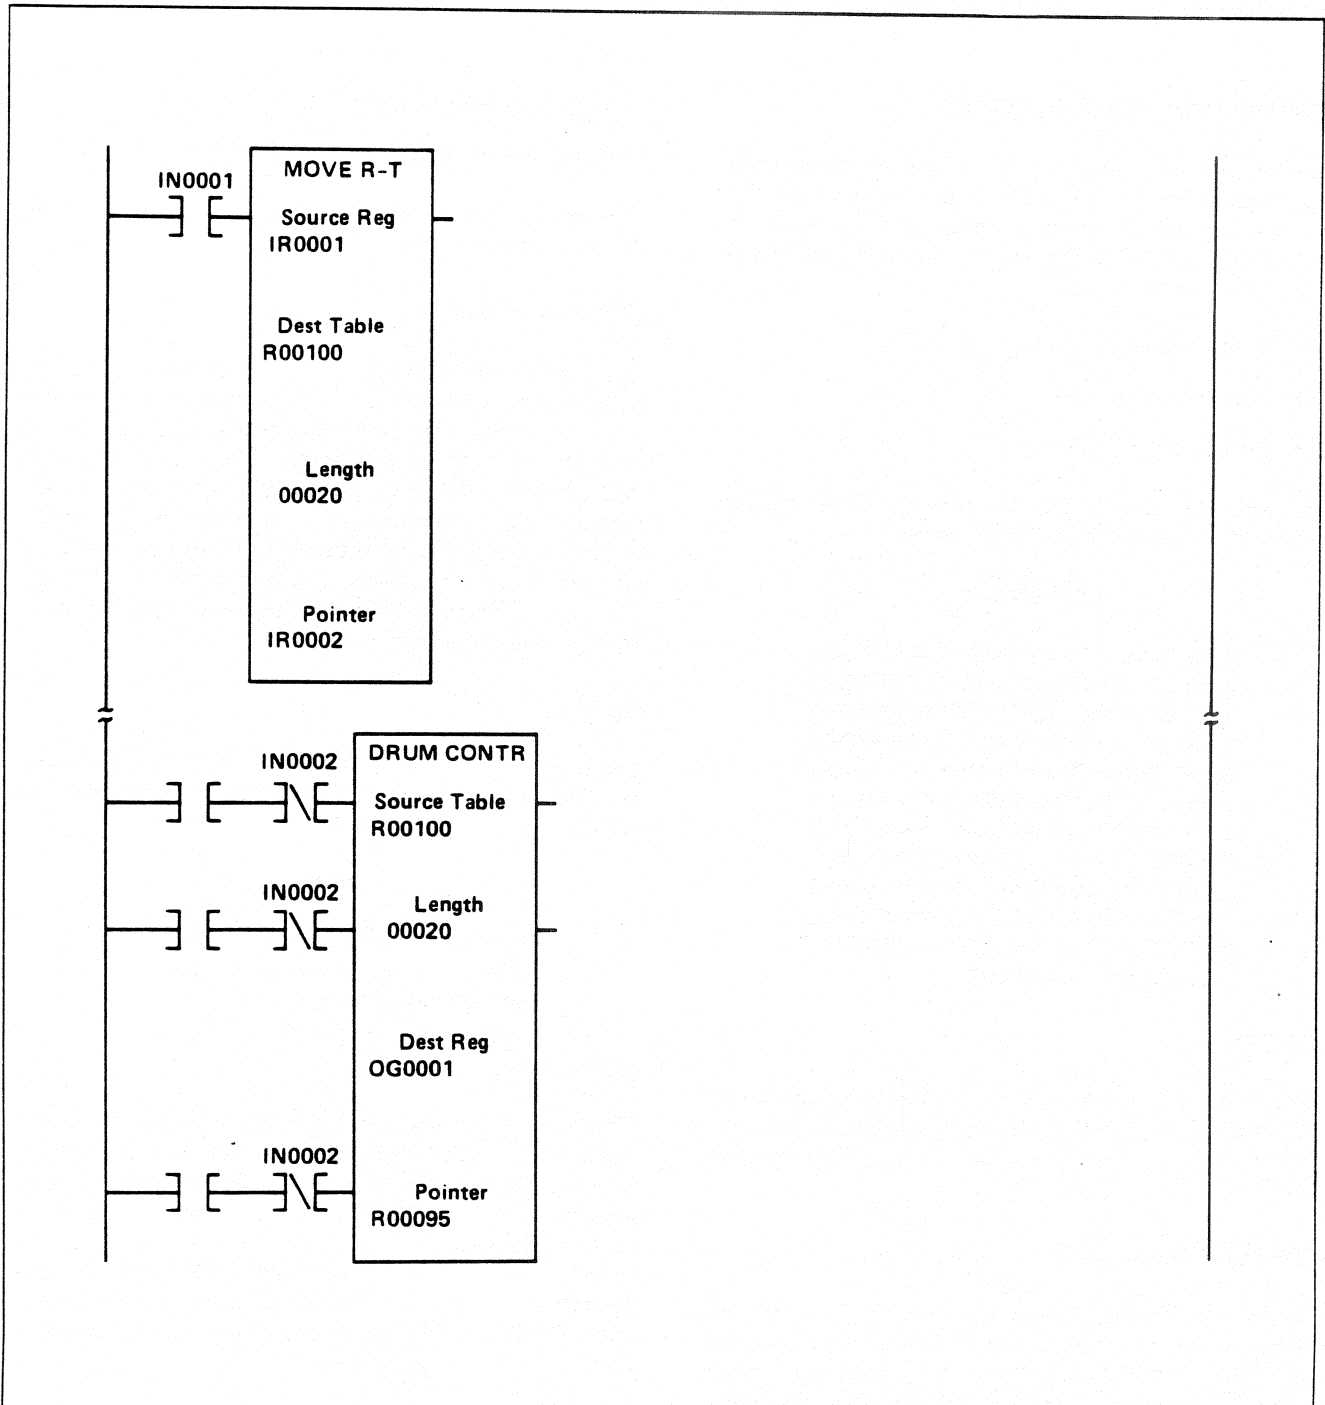

Figure MRT-2. Move Register-to-Table Application
The Move Register-to-Table function can be used to load "step data" associated with the various steps of the Drum Controller function (096). The step data is subsequently output from the Source Table of the Drum Controller function during the normal operation of the Drum Controller function. Figure MRT-2 shows one method of loading a table for a Drum Controller function. Observe the Figure and note the following 4 points: